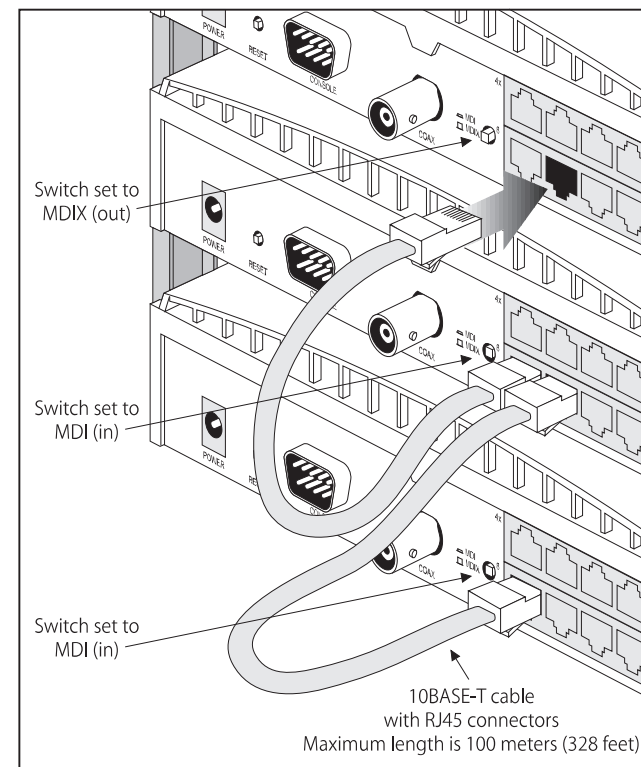

Figure 2-5 Correct Hub Connections Using 10BASE-T
- 1 Starting from the bottom, connect port 8 of the lower hub to port 7 of the hub immediately above. Repeat for each hub, as shown in Figure 2-5.